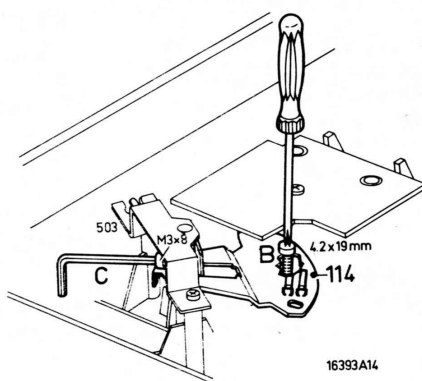

Fig. 4
1. Adjusting the start/stop bracket 114 (Fig. 4)
1. Instelling start-stopbeugel 114 (Fig. 4)